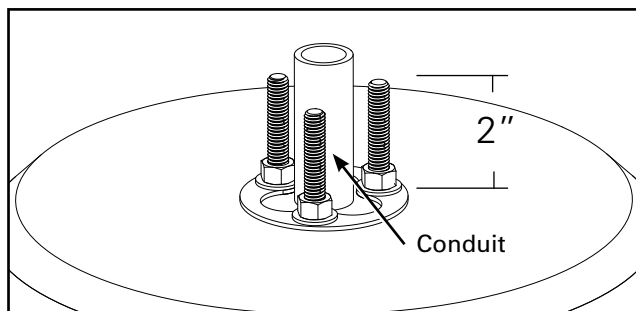

Figure 4.
**Note:** Ensure that there is enough thread length above the pad plate to accept the fixture base and neoprene pad, and to allow 2" to protrude from the top of the base. (Figure 4.)